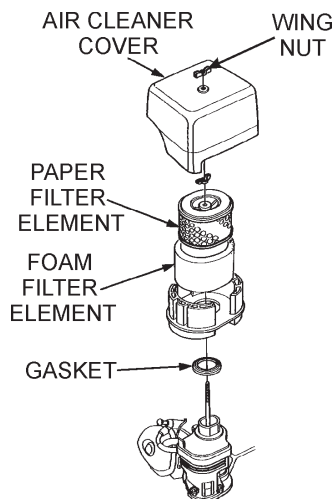

Figure 10. Air Cleaner Element
- Loosen the wing nut and remove the air cleaner cover as shown in Figure 10.